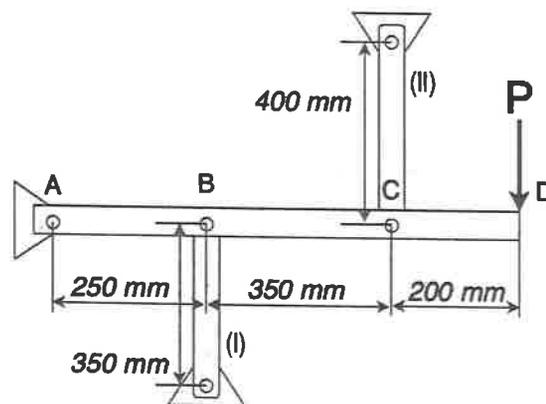

Fig. 2
2. (15%) A rigid beam $ABCD$ is supported by bar (I) and (II) as shown in the Fig. 2. Assume that there is no strain in the vertical bars before load P is applied. After load P is applied, the normal strain in rod (I) is -6×10^{-4} .